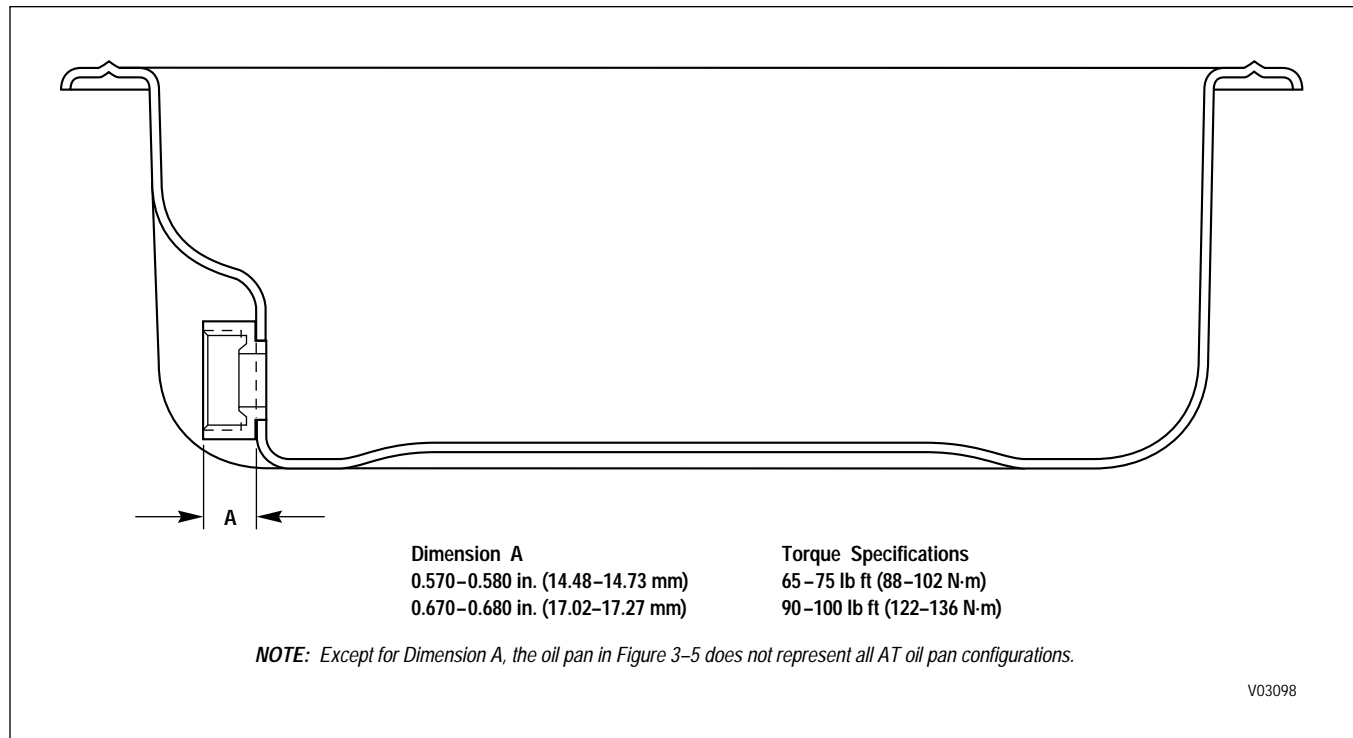

Figure 3-5. Measuring the Length of Oil Pan Boss to Identify Torque Requirements
(4) Place the pan gasket onto the oil pan. **Do not use** any substance as a gasket retainer.
(5) Install the oil pan. Guide the pan and gasket carefully into place. Guard against dirt or foreign material entering the pan. Retain the pan to the housing with **four** $\frac{5}{16}$ -18 washer-head screws, installed **by hand** into the corners of the pan.
(6) Install the remaining seventeen washer-head screws **by hand**, carefully threading each through the gasket and into the transmission. Bottom all of the screws before tightening any of them.
(7) Evenly tighten all twenty-one screws to 10-15 lb ft (14-20 N·m). Check gasket fit while the screws are being tightened.
(8) Install the filler tube at the side of the pan.
(9) Check Dimension **A** (Figure 3-5) to determine what oil pan boss is present. If Dimension **A** is 0.570-0.580 inch (14.48-14.73 mm), then tighten the tube fitting to 65-75 lb ft (88-102 N·m); if Dimension **A** is 0.670-0.680 inch (17.02-17.27 mm), then tighten the tube fitting to 90-100 lb ft (122-136 N·m).
(10) Install the drain plug and washer. Tighten the plug to 15-20 lb ft (20-27 N·m).
(11) Replace the external auxiliary filter element (cooler-out line), if present. Refer to Paragraph 3-9**d**.
(12) Refill the transmission with fluid.